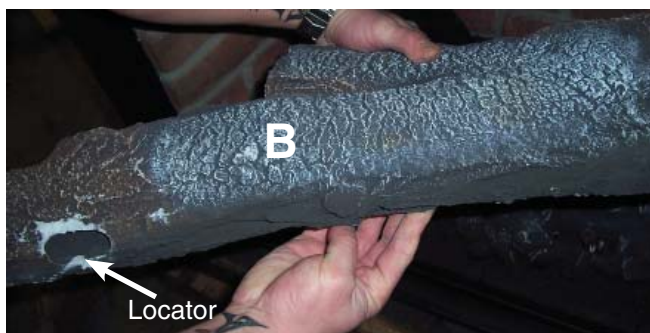

Figure 87: Log B Locator
- 2) Identify locator on Log B as shown in Figure 87.